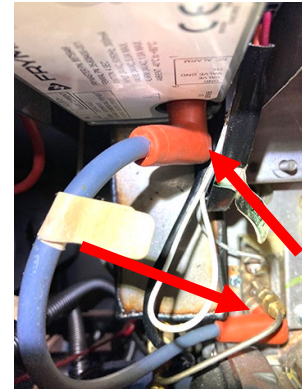

Figure 79
- 78. Attach the high voltage cables to the module and ignitor (see Figure 79).